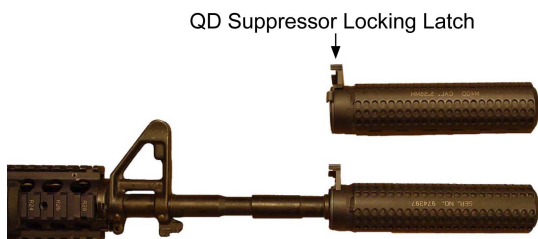

Figure 3-46. QD Suppressor Mounted to Compensator
- (1) Rotate the retainer ring clockwise (to the right) until it stops with the tab in approximately the 9 o'clock position. Raise the quick-detach latch plate and slide the QD suppressor over the QD compensator. Rotate the QD suppressor counterclockwise (to the left) until the rotational stop is engaged at the front of the QD model compensator. Refer to Figure 3-46.